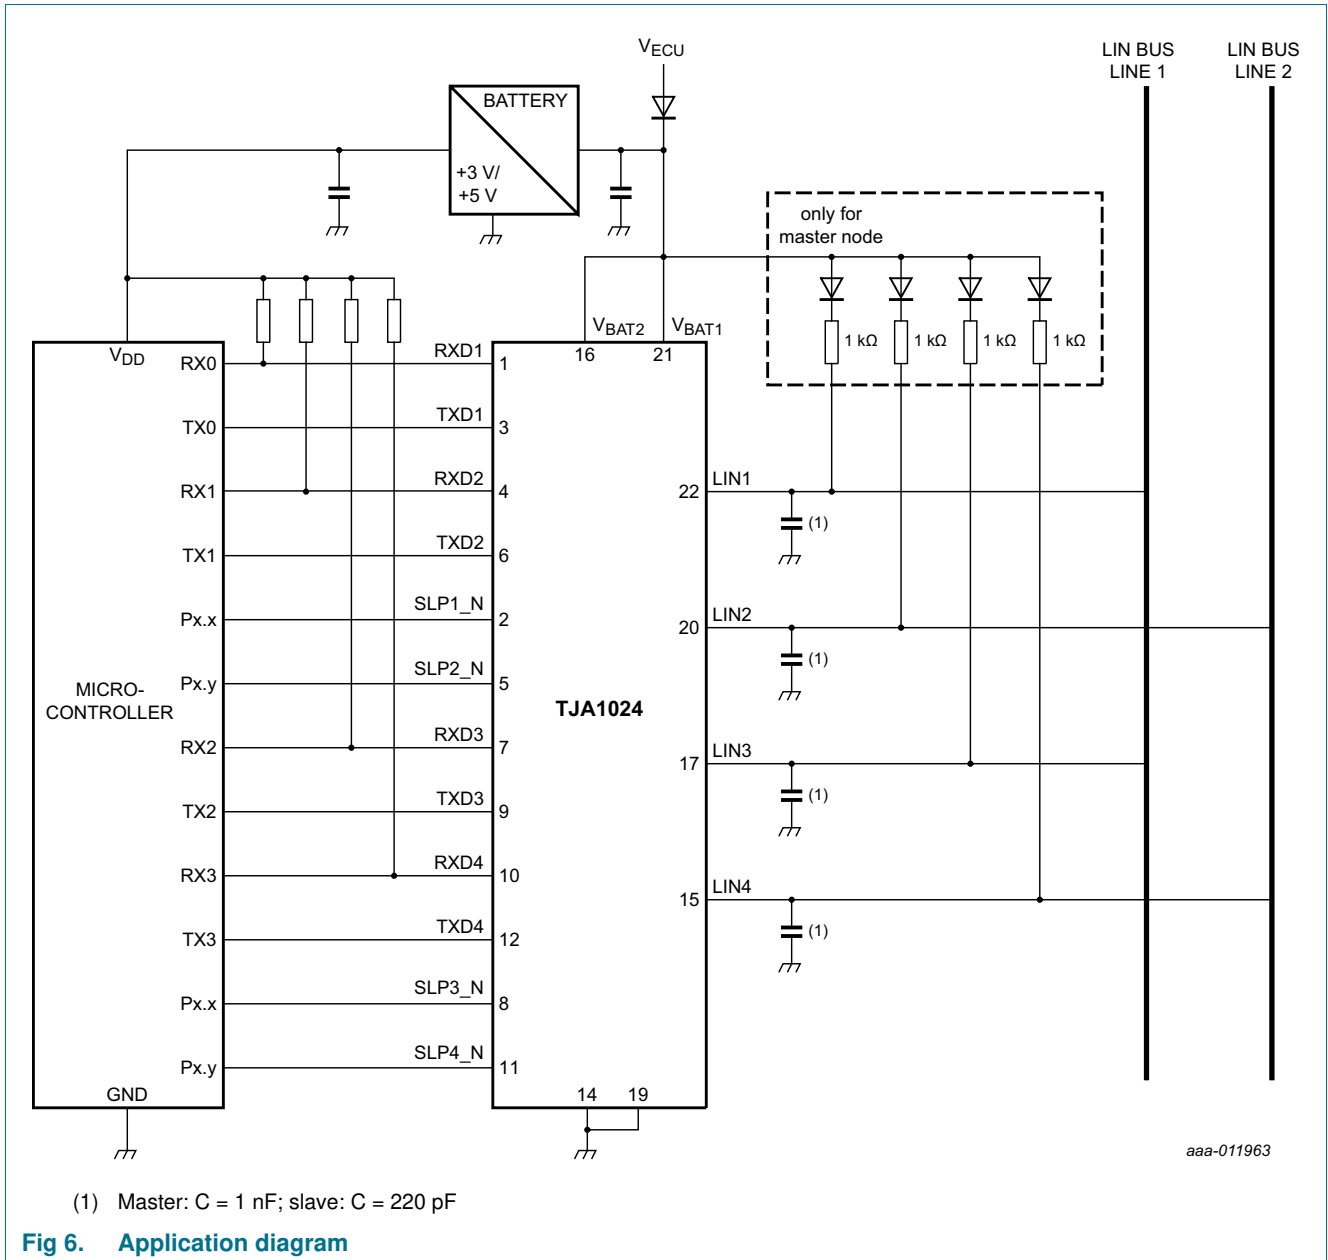

**Fig 5. Timing diagram of LIN transceiver duty cycle**
- [2]  $\delta 1, \delta 3 = \frac{t_{bus(rec)(min)}}{2 \times t_{bit}}$ . Variable  $t_{bus(rec)(min)}$  is illustrated in the LIN timing diagram in Figure 5.
- [3]  $\delta 2, \delta 4 = \frac{t_{bus(rec)(max)}}{2 \times t_{bit}}$ . Variable  $t_{bus(rec)(max)}$  is illustrated in the LIN timing diagram in Figure 5.
- [5] See timing diagram in Figure 5.